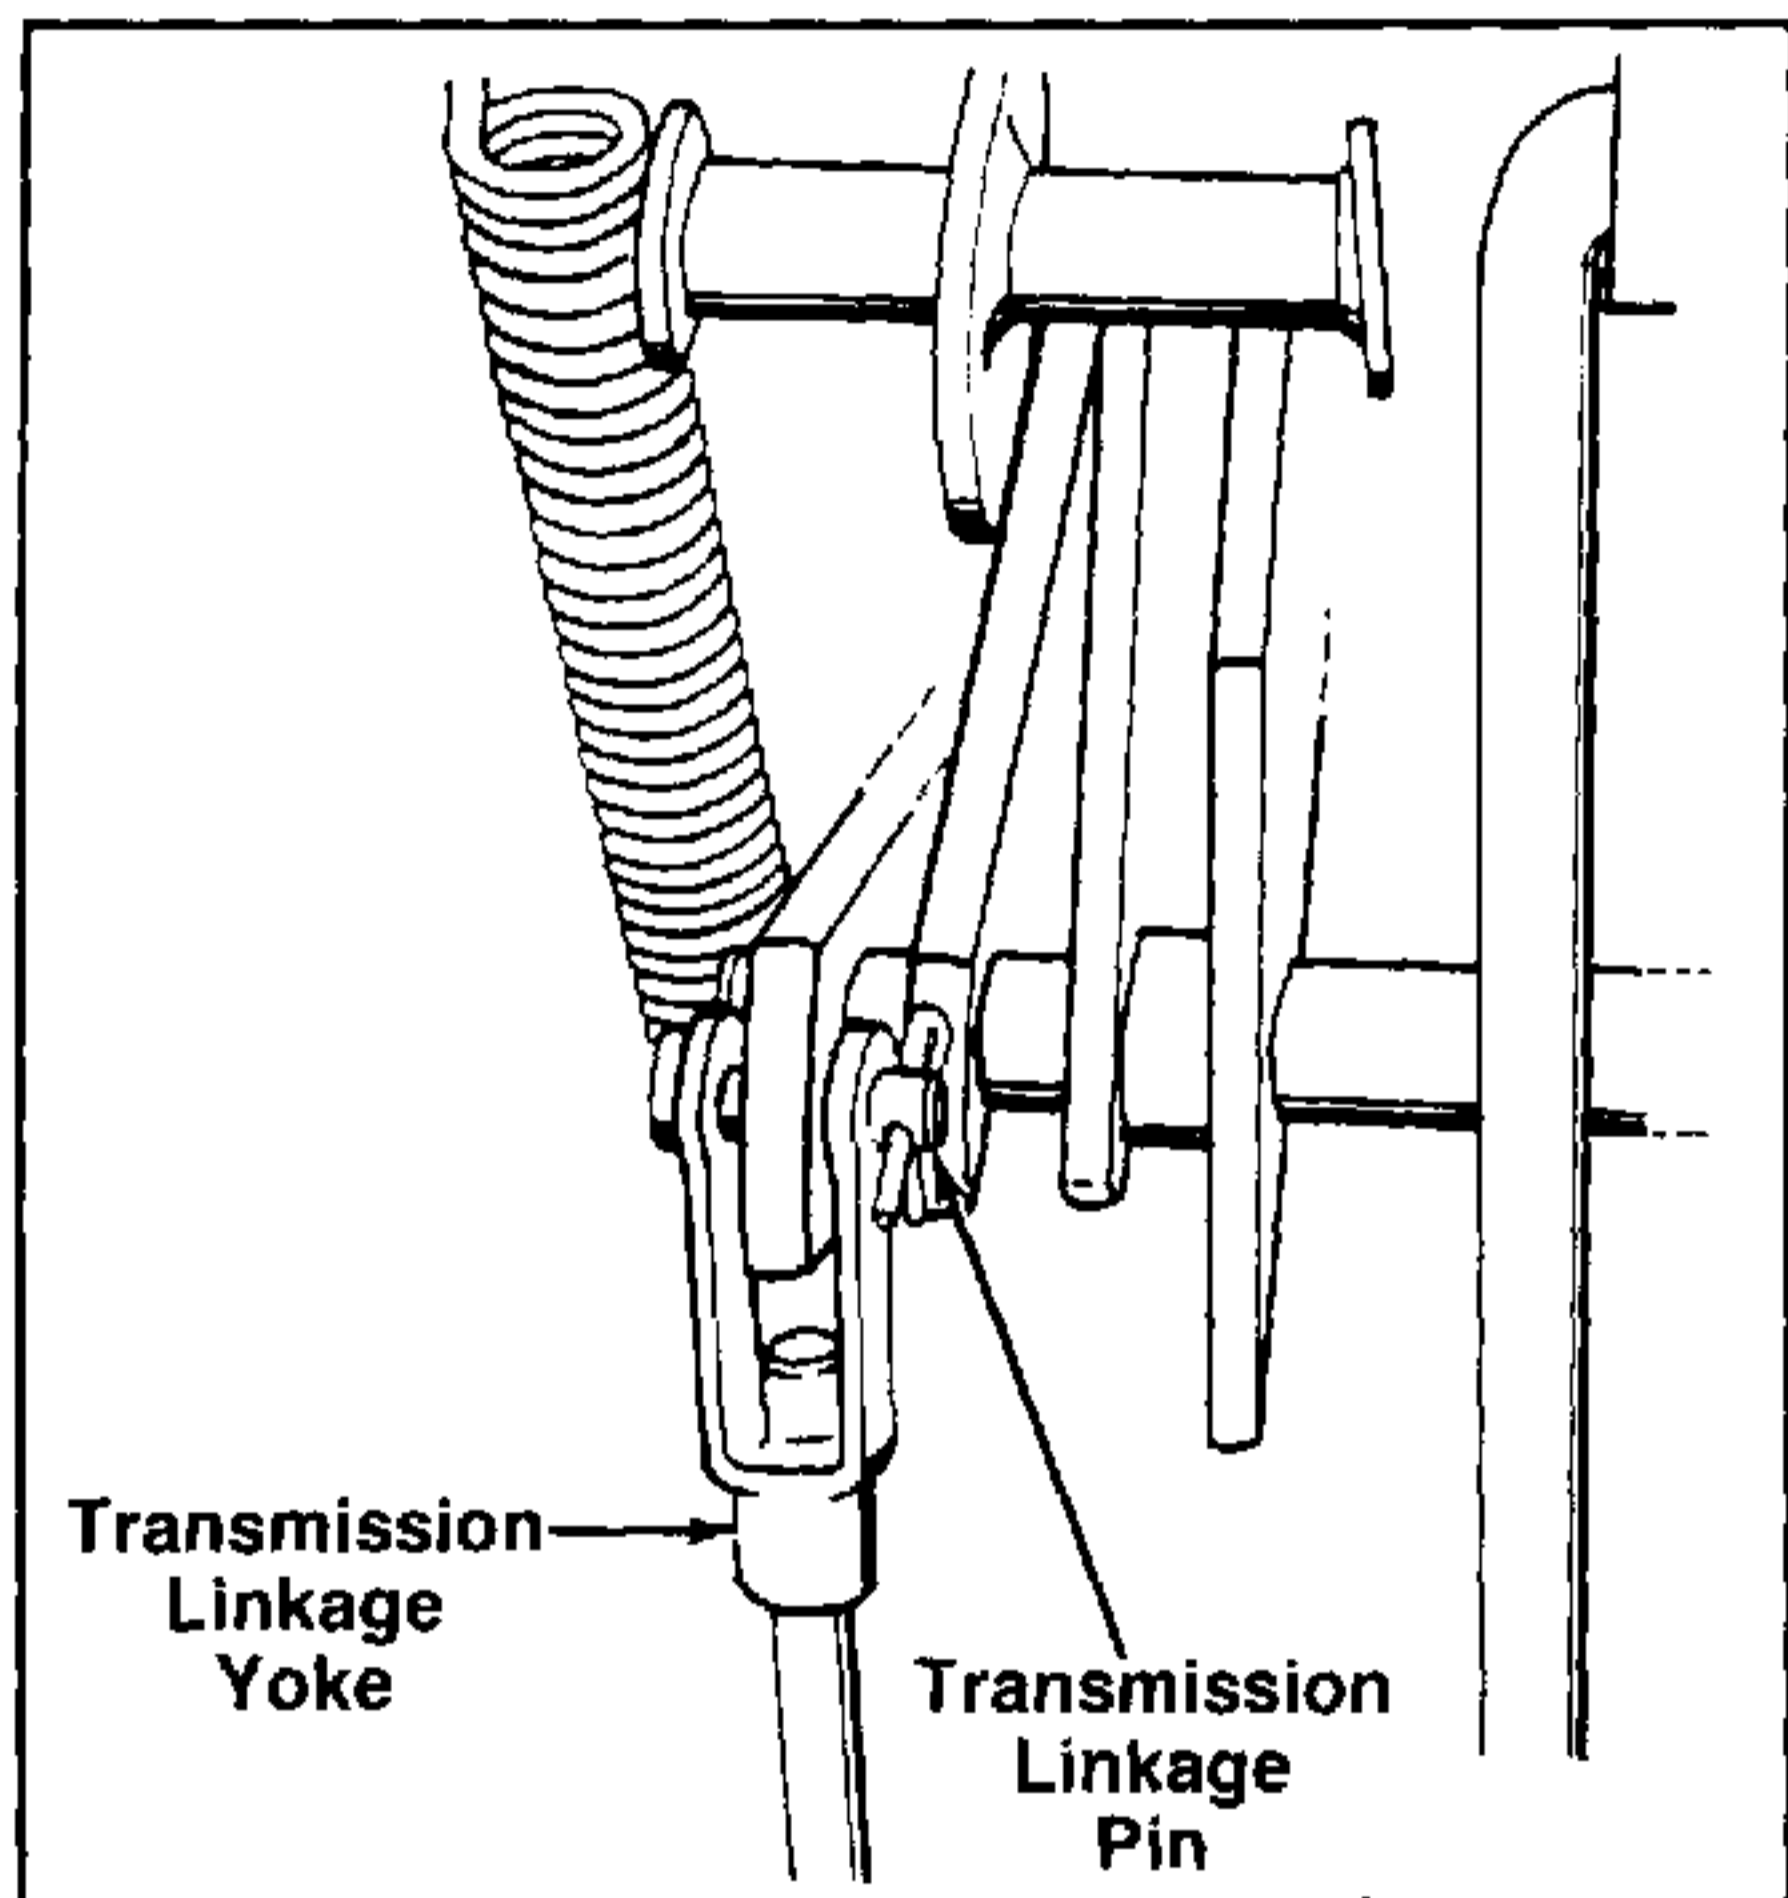

FIGURE 1.
3. Remove the cotter pin and headed pin that retains transmission linkage to pivot arm. See figure 1. **NOTE:** Be sure transmission lever, attached to hydrostatic transmission, does not move.